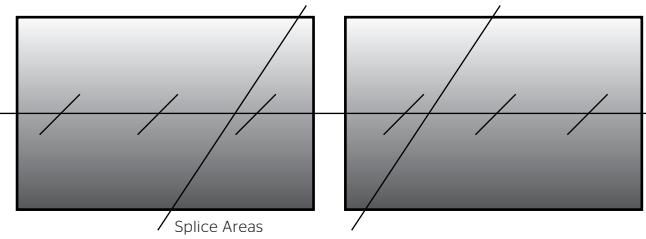

Fig. 5-13
20. Refer to Fig. 5-13: Mark a center line on each end of the belt by connecting three center marks, the farthest being a minimum of three times the splice length distance from the master line. Align the belt using the center marks and dry fit the ends to ensure the steps fit together properly. Do not allow any steps to overlap; trim to fit as necessary. After completing adjustments, secure the belt ends in this position. It is common to C-clamp the belt to the work table and nail blocks of wood to the table flush with the belt edges to prevent lateral movement.